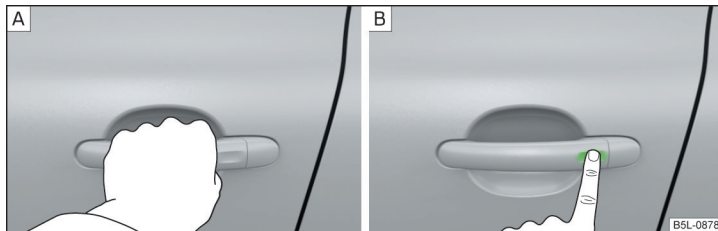

Fig. 31 Vehicle unlocking / vehicle locking
- Grip the door handle to **unlock** » Fig. 31 -  the vehicle.
- Touch the sensor on the door handle with your finger to **lock** » Fig. 31 -  the vehicle.